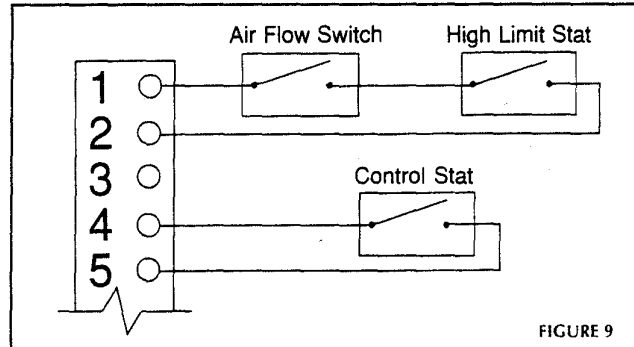

FIGURE 9
A. Control Input - Unit will operate with any two position device (See Fig. 9). Demand for humidity will close the contact.
B. Limit Input - Unit will operate with any two position device (See Fig. 9). The humidistat contact will open on humidity rise.
3. Two position device (See Fig. 9)
1. Two position device (See Fig. 9).